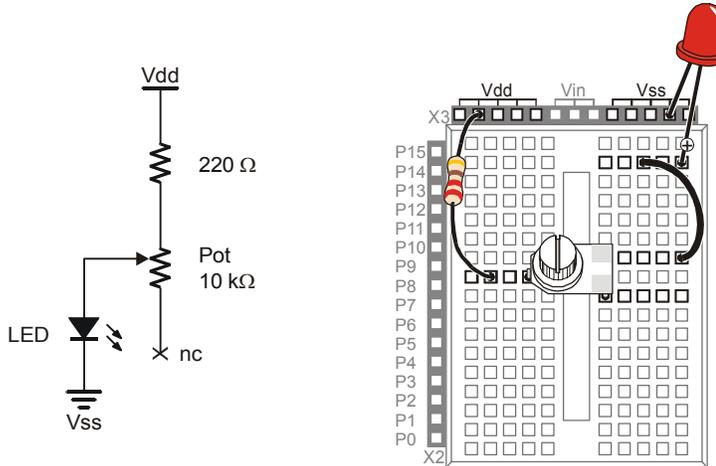

Figure 5-5
Figure 5-5 shows a circuit that can be used for adjusting the LED's brightness with a potentiometer.
- √ Build the circuit shown in Figure 5-5.